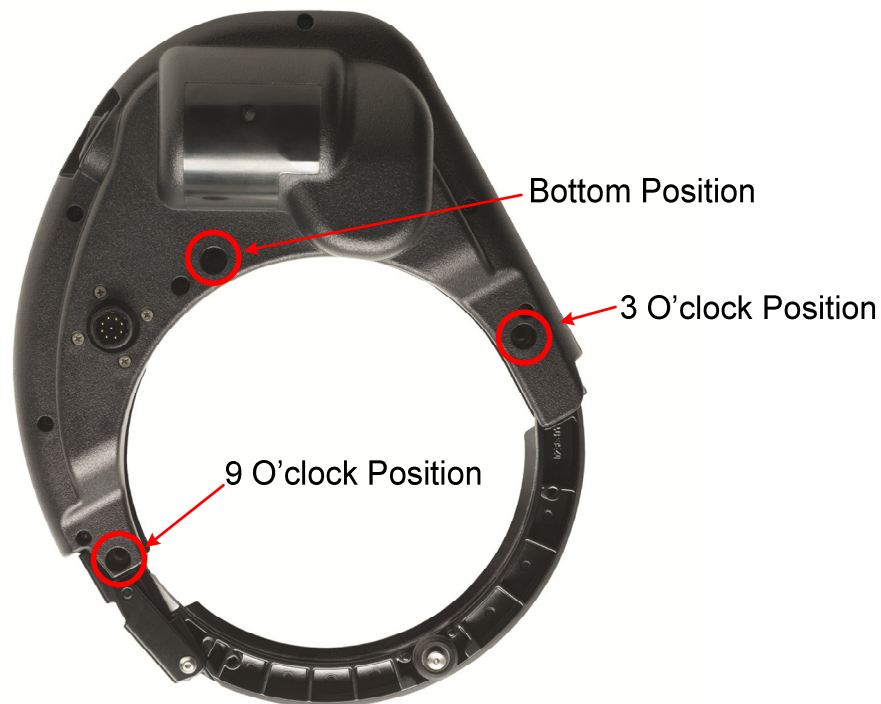

Figure 10 – Anti-rotation Pin Locations
2. Based on your preferred orientation, choose one of three locations for the Anti-rotation Pin as shown in Figure 10.